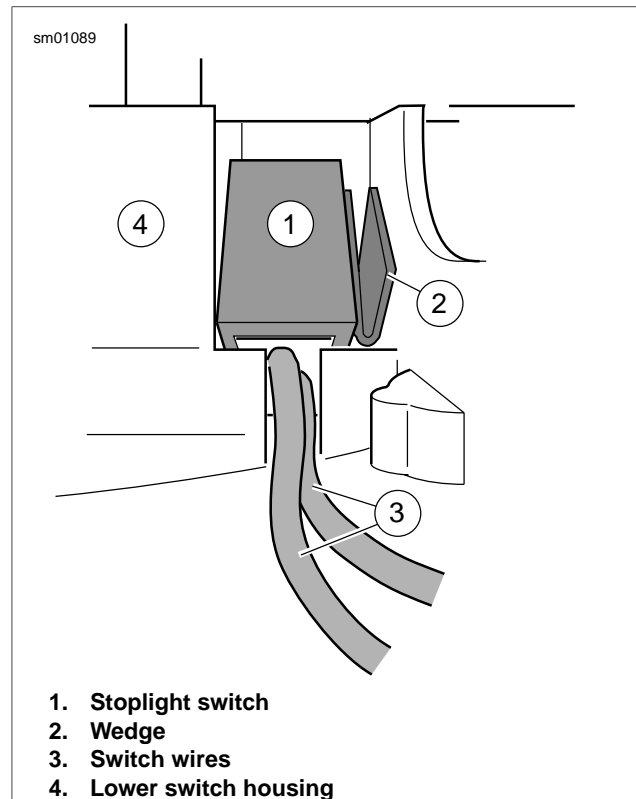

Figure 8-88. Install Stoptlight Switch
- See Figure 8-88. Push down on switch (1) so that it bottoms against housing and wires (3) run in groove at base of cavity. With the concave side facing outward, insert wedge (2) between switch and outboard side of switch housing.